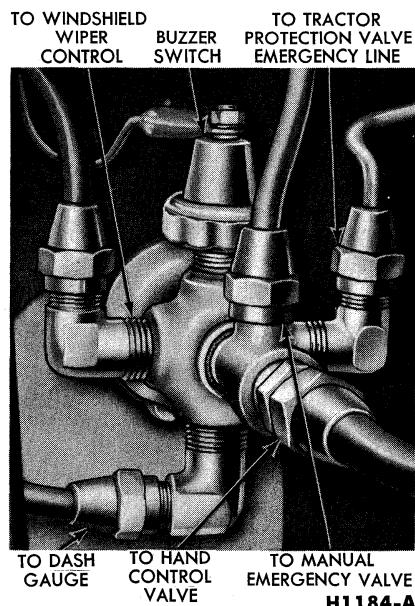

FIG. 13—Pressure Indicator Valve
dash panel (Fig. 13), and taps into a reservoir pressure line on the engine side of the panel.
3. Disconnect the air line to the dash gauge and the line to the windshield wiper control. On some full air systems, also disconnect the lines to the tractor protection valve, to the manual emergency valve, and to the hand control valve (Fig. 13).
2. Connect the wire to the buzzer switch, and connect the dash gauge and windshield wiper control lines. On some full air systems, connect the other lines as shown in Fig. 13.